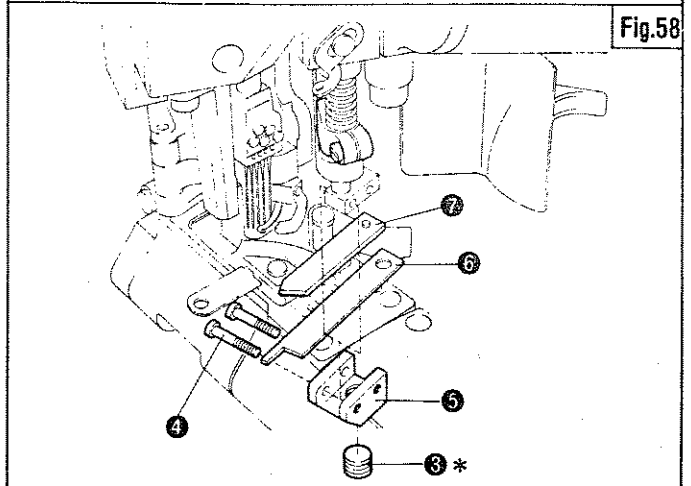

Fig.58
## PRESSER FOOT INTERCHANGE(Figs.58, 59 and 60)
Refer to Figs. 58, 59 and 60 and remove ❸~❹ in sequence.
### Presser foot installation(Figs. 58, 59 and 60)
Refer to Figs.58 and 59, and follow the reverse order of the removal.